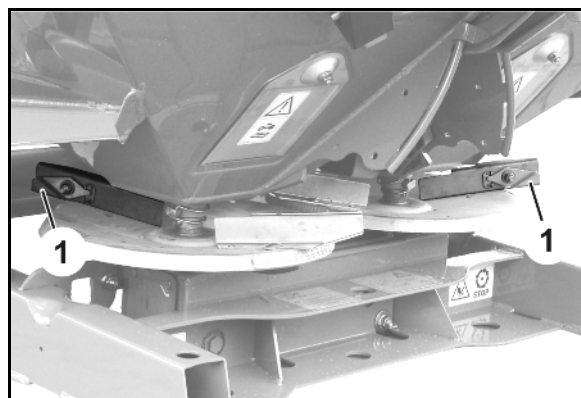

Fig. 28
- Left spreading disc (Fig. 28/1) with mark **L**.
- Right spreading disc (Fig. 28/2) with mark **R**.
- Long (Fig. 28/3) - Adjustment scale with values from **30** to **50**.
- Short (Fig. 28/4) - Adjustment scale with values from **0** to **20**.